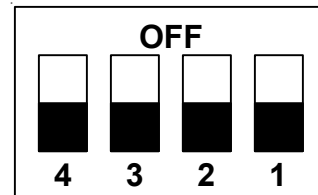

Figure 1.
2. Put all Dip switches in the ON position (see Fig. 1).